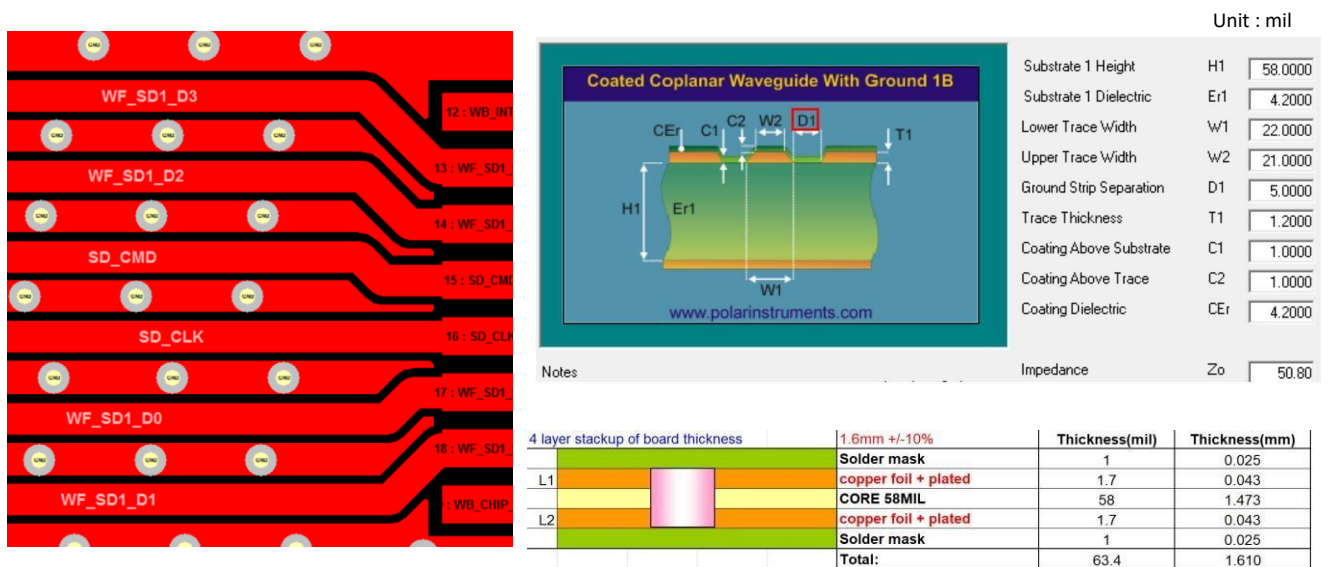

Figure 3 SDIO traces routing in 2 layer PCB and impedance calculation
- Isolating each SDIO traces by grounding is strongly especially for 2 layer PCB stack-up as shown on Figure 3.